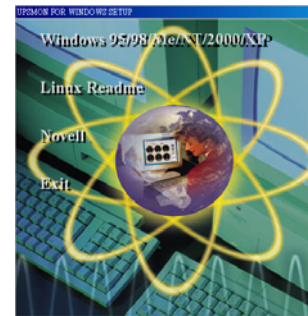

Fig 5.1
1. Insert the UPSMON CD into your CD-ROM drive. The installation program should start automatically and installation menu appear as shown in Fig 5.1. Please select the operating system applied for your computer and then click on it. (For example if your operating system is Windows 98, please click select item **Windows 98/ ME/ 2000/ XP**.)